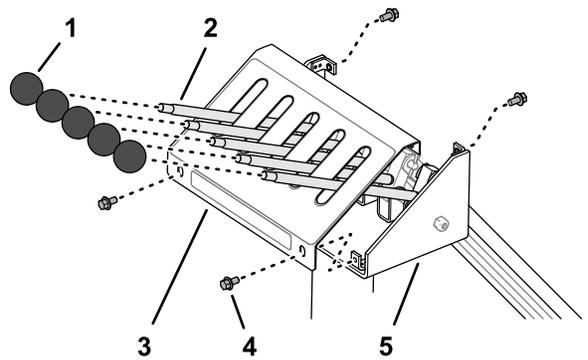

Figure 30
- Align the cover over the levers (Figure 30).
- Secure the cover to the console (Figure 30) with the 4 flange-head screws that you removed in Removing the Control-Console Cover \(page 10\).
- Thread the 3 knobs that you removed in Removing the Control-Console Cover \(page 10\) and the 2 knobs from the 5 to 7 conversion kit onto the levers (Figure 30).